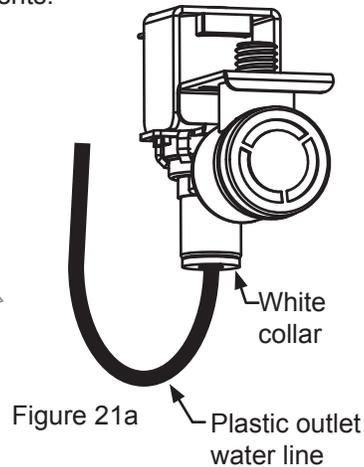

Figure 21a
18. Disconnect the plastic water line from the bottom of the solenoid valve (see Figure 21a) and drain. Reconnect the water line.